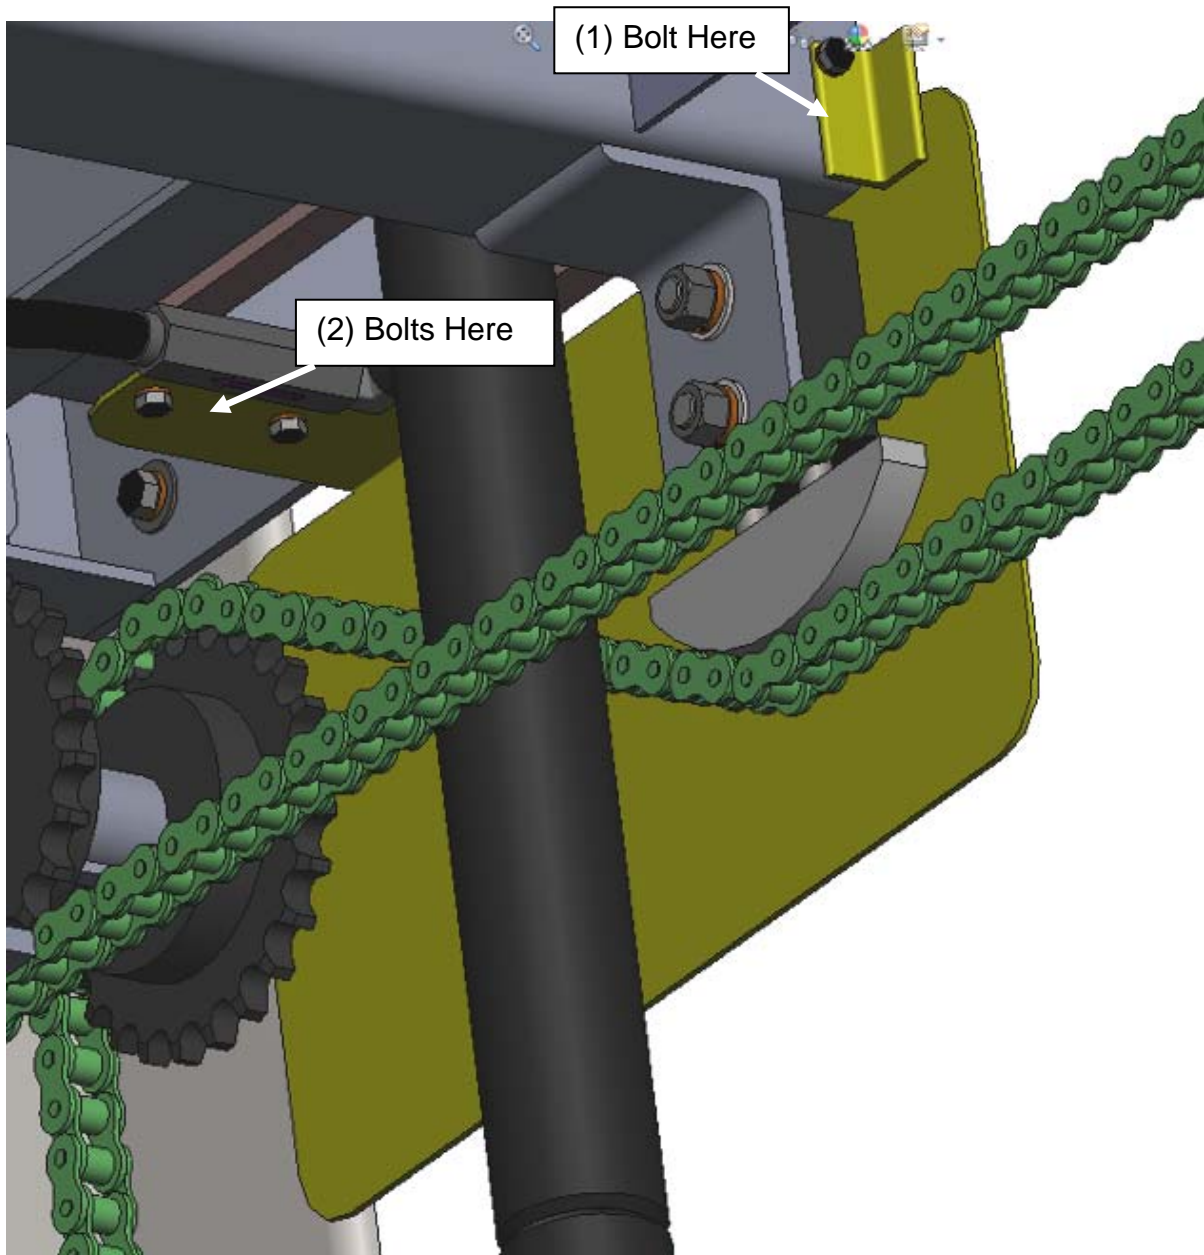

Figure 37 Installing Chain Guards
- Install yellow chain guards to all four (4) corners of the lower carriage as shown in **Figure 37** to prevent pinching of hands, fingers, clothing, etc. in between the chain and sprockets or chain tensioners.